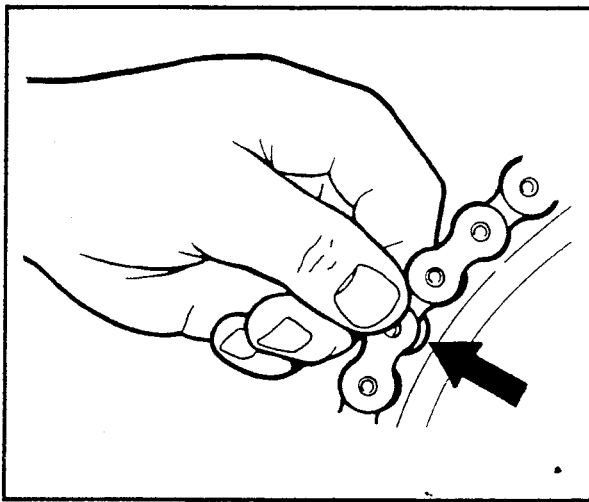

Figure 2-116A. Chain Wear
1. See Figure 2-116A. If the chain can be lifted away from the rear sprocket more than shown, the chain should be replaced.